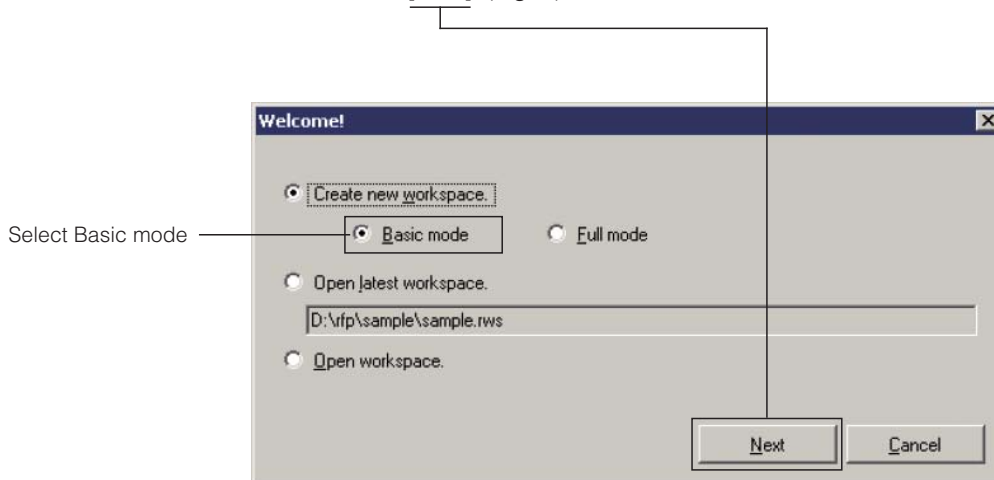

Fig. 2
The screen appears as shown below. (Fig. 2)
3. Select the Basic mode and click [Next]. (Fig. 2)